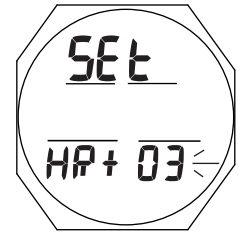

Fig. 21 - SET AWAY TIME (by hour differential)
**Set Away Time (Differential)**, information includes (Fig. 21):